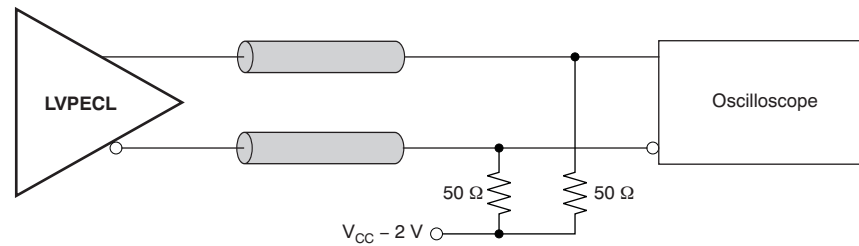

Figure 10. LVPECL Output DC Configuration During Device Test
(1) Figure 10 and Figure 11 show DC and AC test setup.